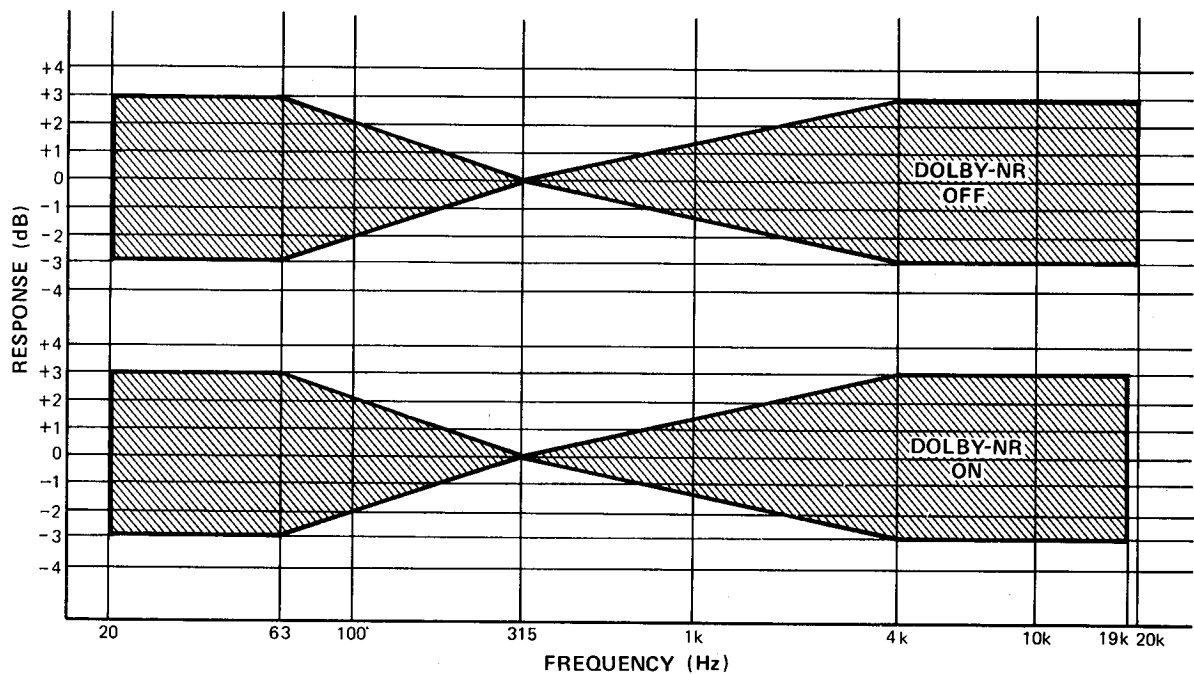

Fig. 3 - Metal
6. Play back the metal tape recorded above, note the frequency response obtained on the V.T.V.M. 2 and compare to Fig. 3.
7. If the above frequency response is not within the shaded DOLBY-NR OFF area on Fig. 3, adjust VR309 (left), VR310 (right), L301 (left peaking) and L302 (right peaking) slightly. Repeat steps 5 and 6 until playback frequency response on the V.T.V.M. 2 is adjusted within the DOLBY-NR OFF range as shown in Fig. 3.
8. Set Dolby NR switch to ON position and check if frequency response is within range of DOLBY-NR ON section of Fig. 3, if not repeat DOLBY-NR OFF procedures.